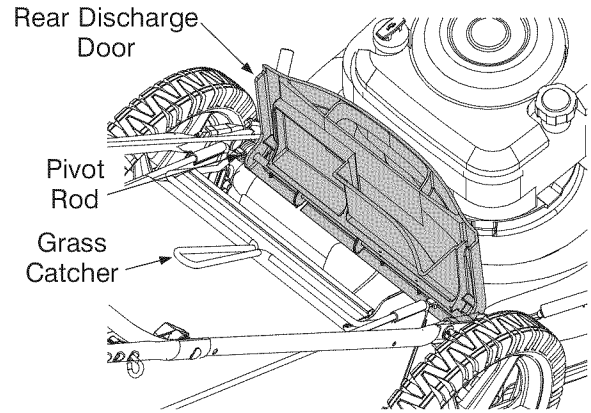

Figure 7
- Lift the rear discharge door on the mower, and place the grass catcher on the pivot rod. Let go of discharge door so that it rests on the grass catcher. See Figure 7.
- Lift the rear discharge door on the mower as shown in Figure 7. Lift the grass catcher up and off the pivot rod. Release the rear discharge door.